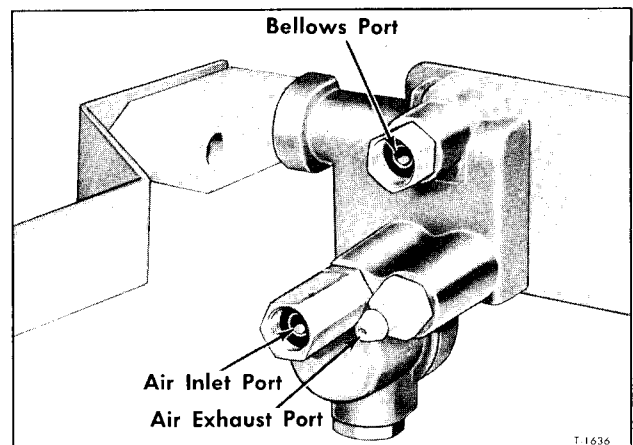

Figure 25—Identification of Valve Air Ports
2. Connect air pressure line to air inlet port (fig. 25), then open the air pressure (80-110 psi).
5. Remove air pressure line from air inlet fitting and connect it to the bellows port (fig. 25). If bubbles appear at the air inlet check valve port, this is an indication that check valve unit is defective and must be replaced.
6. If bubbles appear at the exhaust port (fig. 25), it is an indication that the exhaust valve assembly is defective and must be replaced.
6. If vacuum source is available, attach supply hose to valve exhaust port (fig. 25) using Sun Tester fitting #115-3 or equivalent. Do not apply vacuum at this time.
7. Attach air pressure supply hose to air inlet port (fig. 25). Do not apply pressure at this time.
1. Connect air supply hose (80 to 110 psi) to air inlet port (fig. 25).
b. Being careful not to disturb indicator setting, disconnect air supply from the air inlet port and connect it to the bellows port (fig. 25).